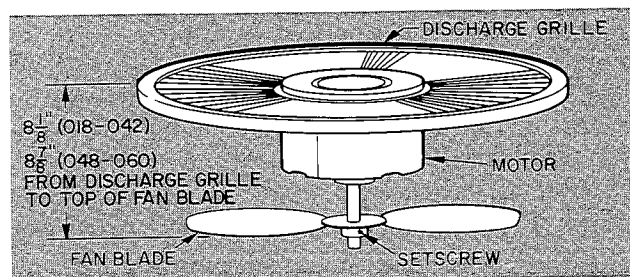

Fig. 24 — Outdoor Fan Position
7. Reverse procedure for reassembly. Before replacing metal fan, be sure rain shield is in place on motor shaft. Seal with Permagum sealer around hub to prevent entry of water between hub and shaft. Make sure fan is positioned correctly as shown in Fig. 24.